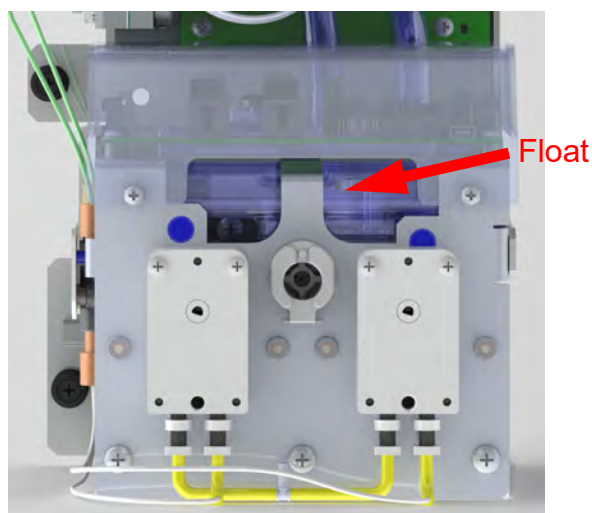

Figure 85: DI Reservoir Level with Float
4. Squeeze the bottle to fill the DI reservoir until the water line reaches JUST BELOW the top of the reservoir. Use the float seen through the window as a guide, as shown in Figure 85.
8. Verify that the water line is **JUST BELOW** the top of the reservoir, as shown in Figure 85: DI Reservoir Level with Float. Add water as needed. See “To fill the DI water reservoir” on page 262.